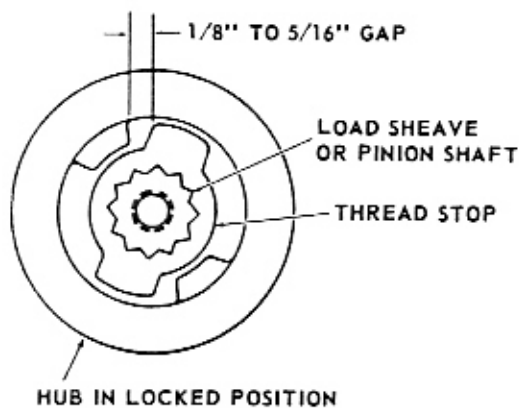

FIGURE 4-6. POSITIONING OF THREAD STOP
i. Assemble handle and load limiting device to hoist by screwing brake hub (25) counter-clockwise onto
load sheave (38) until hub face has locked against brake disc (19). Continue turning hub counter-clockwise until the cast stop within the hub is at the top as shown in figure 4-6. Place thread stop (11) over the notched end of load sheave and to the right of the cast hub stop, allowing a minimum 1/8 inch movement to a maximum 5/16 inch movement between hub stop and the protrusion on thread stop. Install washer (32) and screw (1).
j. Place "o" ring (3) in clutch cap (2). Assemble clutch cap on hub (25) by turning cap counter-clockwise with a spanner wrench. Install set screw (60) in clutch cap.
k. Assemble top hook (57), hook washer (59) and nut (58) in housing (49). Screw nut on hook until approximately 1/64 inch vertical play (to allow hook to swivel freely) remains. Align pin hole in hook and slot in nut and insert pin (43). If latch (56) was removed, attach latch to top hook.
l. Position swivel frames (54) over bottom hook (55). If latch was removed, attach latch to bottom hook.
j. Assemble handle and load limiting device to hoist by screwing brake hub (25) counter-clockwise onto pinion shaft (42) until hub face has locked against brake disc (19). Continue turning hub counter-clockwise until the cast stop within the hub is at the top as shown in figure 4-6. Place thread stop (11) over the notched end of pinion shaft and to the right of the cast hub stop, allowing a minimum 1/8 inch movement to a maximum 5/16 inch movement between hub stop and the protrusion on thread stop. Install washer (32) and screw (1).
k. Place "o" ring (3) in clutch cap (2). Assemble clutch cap on hub (25) by turning cap counter-clockwise with a spanner wrench. Install set screw (13) in clutch cap.
l. Assemble top hook (64), hook washer (67) and nut (66) in housing (56). Screw nut on hook until approximately 1/64 inch vertical play (to allow hook to swivel freely) remains. Align pin hole in hook and slot in